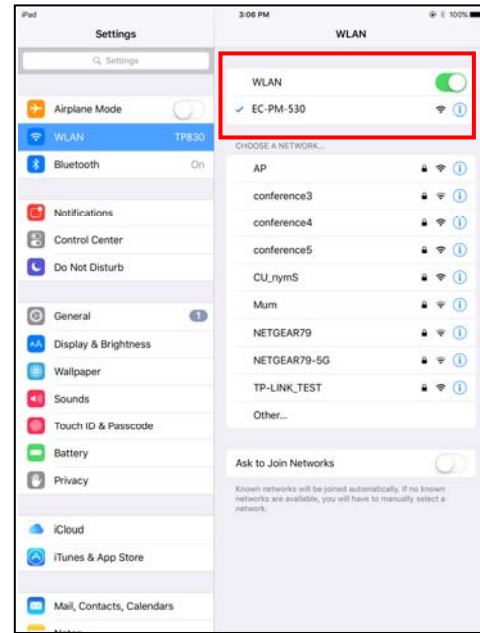

Figure 36
1.4 Select the “EC-PM-530B” hotspot, as shown in Figure 36.